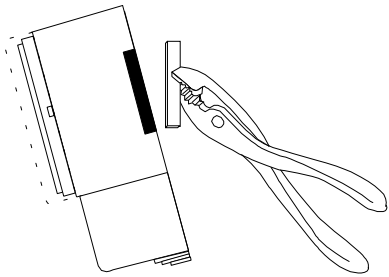

Figure 5: Removing DIN Rail Knockouts
4. Using blunt-nose pliers, remove the break-away tabs from the housing. See Figure 5.